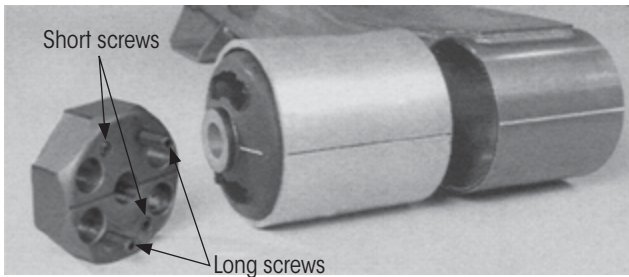

Figure 37: Wide bushing rear drive plate set screws
- A. **Wide Bushing Tool:** Thread all four set screws (two and four-inch) into the “HVY” holes in the concave side of the rear drive plate. The **two-inch set screws** should be flush with the flat side of the rear drive plate (Figure 37). The **four-inch set screws** should extend two inches beyond the flat side of the rear drive plate as shown in Figure 21 on page 11.